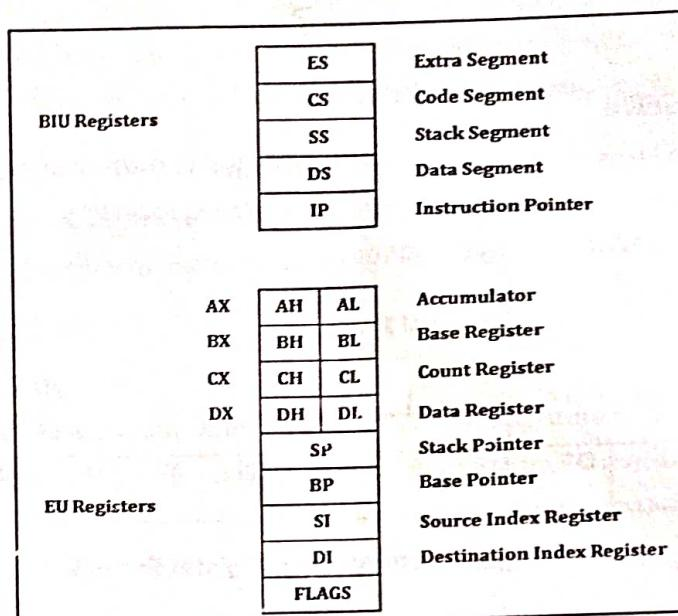

Figure 1.10: 8086 Programming Model.
4. Figure 1.10 shows the 8086 Programming Model.